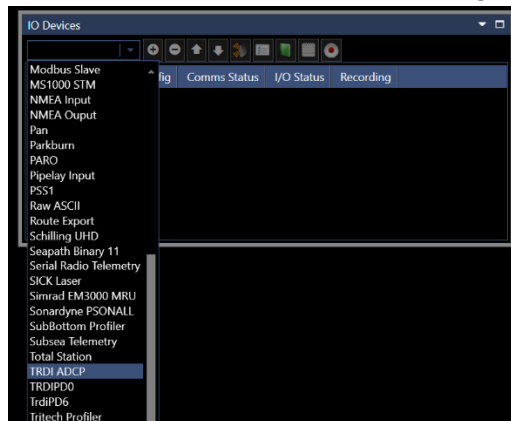

FIGURE 18-5 I/O DEVICE SELECTION
- From the drop-down, select the TRDI ADCP device, see Figure 18-5